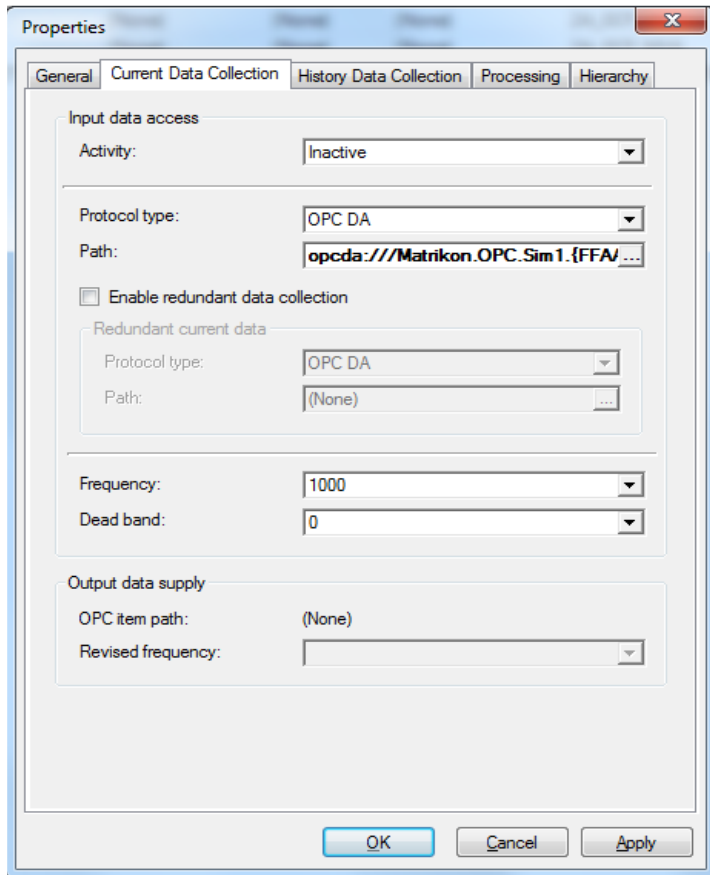

Figure 5. Current Data Collection tab
- Click **Current Data Collection** tab and fill the details of tag collection, activation fields as shown in Figure 5.